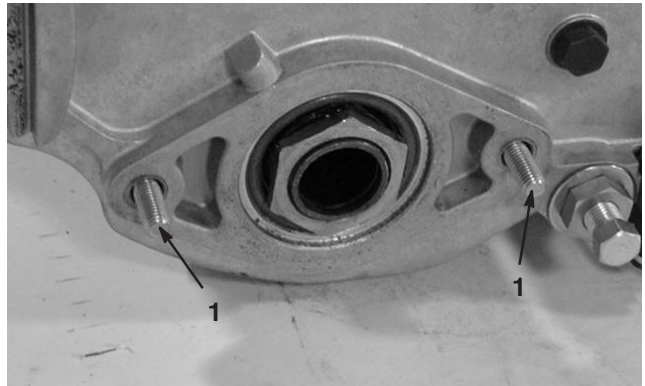

Figure 4
1. Motor mount 2. Allen head screw (2)
7. Install (2) M8 capscrews thru left sideplate as shown in figure 4.